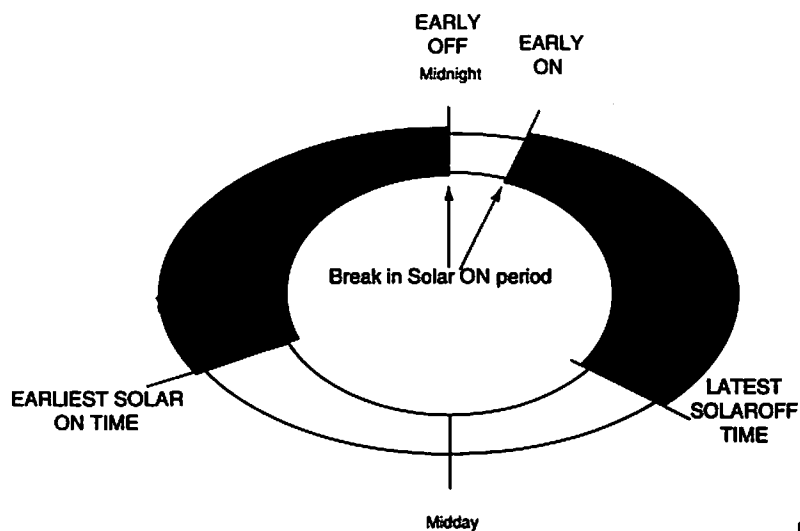

Fig. 7
1) The early OFF/ON function allows the user the ability to program a "break" in the maximum solar ON period. See Fig.7, page 15.